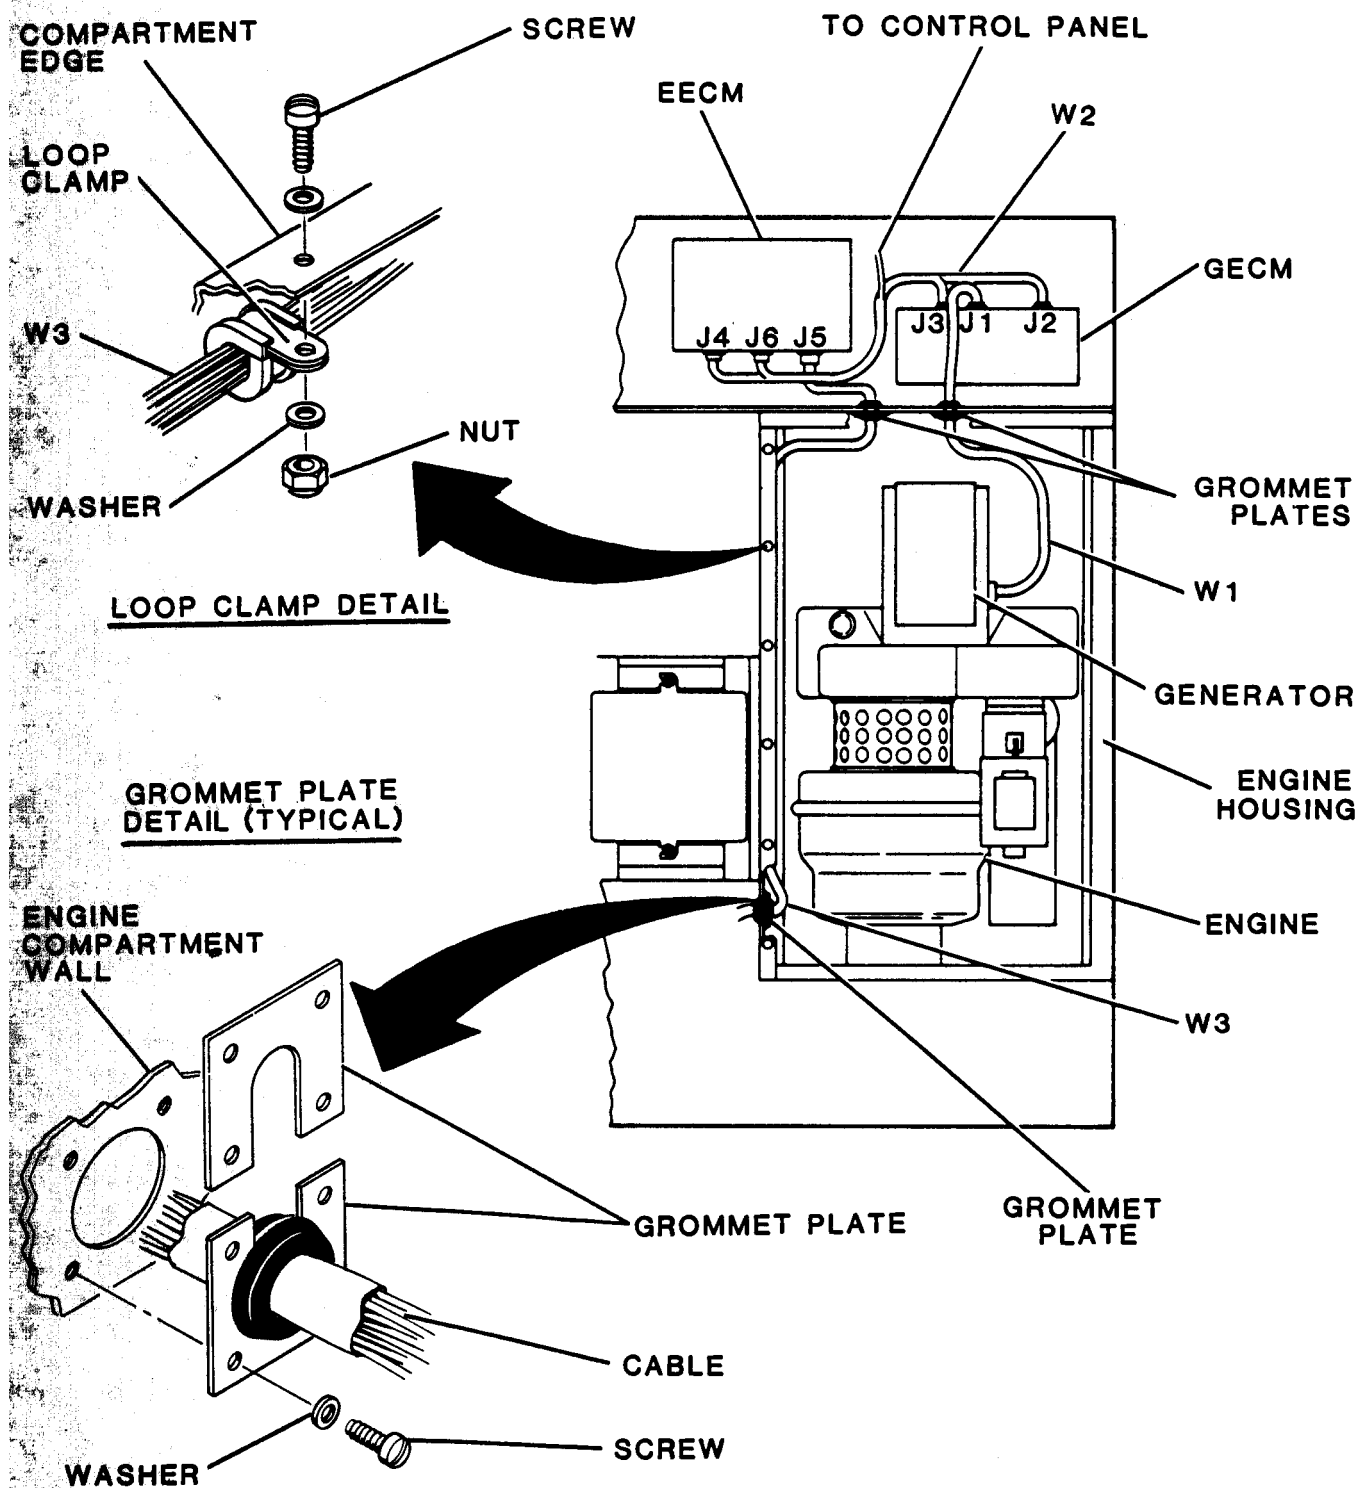

Figure 4-47. Wiring Harness Loop Clamp and Grommet Plate Details
(1) Disconnect battery cable plug connector from battery.
(2) Remove power cable from cable support.
(3) Unlatch and open fuel housing access door. Secure in open position.
(4) Tag and disconnect electrical connectors from transfer pump, solenoid valve, and high pressure pump.
(5) Remove nuts, washers, and screws to free wiring harness from loop clamps in fuel housing. (See figure 4-47.)
(6) Loosen turnlock fasteners and remove engine housing access cover.
(1) Carefully place wiring harness W3 in engine housing.
(2) Pass connector through bulkhead into EECM housing. Connect to EECM connector J5.
(3) Install EECM access cover and secure with turnlock fasteners.
(4) Open control panel.
(5) Remove tags and connect wiring harness W3 connections to TB3, terminals 1 and 19.
(6) Close control panel and secure with turnlock fasteners.
(7) Close control panel access door.
(8) Use washers and screws to secure grommet plate to bulkhead separating engine housing from EECM. See figure 4-47.
(11) Remove tag and connect wiring harness W3 electrical connectors to low oil pressure switch, monopole speed sensor, EGT thermocouple, and ignition coil.
(12) Pass remainder of wiring harness W3 through bulkhead into fuel housing.
(13) Secure grommet plate to bulkhead with washers and screws. See figure 4-47.
(14) Remove tags and connect wiring harness W3 electrical connectors to transfer pump, solenoid valve, and high pressure pump.
(15) Install loop clamps with screws, washers, and nuts.
(16) Close and securely latch fuel housing access door.
(17) Install engine housing access cover and secure with turnlock fasteners.
(18) Stow power cable on cable support.
(19) Connect battery cable plug connector to battery.